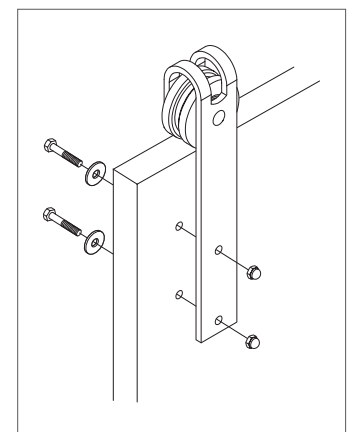

Figure 6
7. Install the hangers to the front of the door using hex bolts, washers, and acorn nuts (provided) (figure 6).
11. Hang the door (Figure 6).